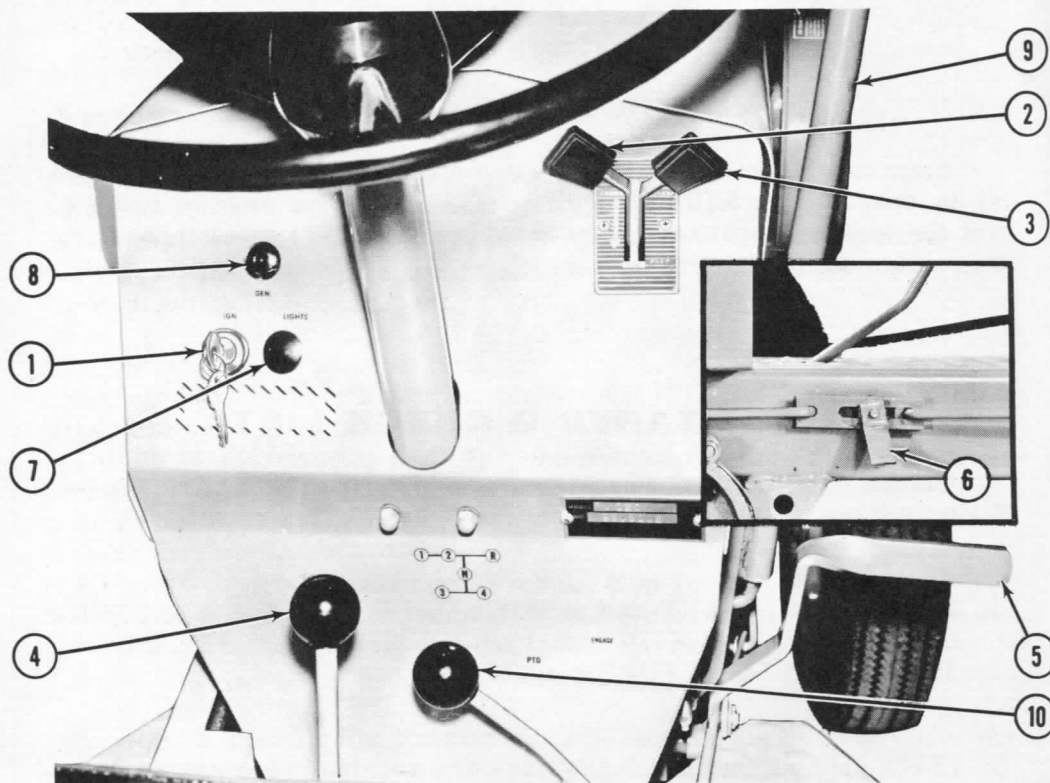

Figure 5
**NOTE** Always engage and lock the brake when parking the tractor. The brake is locked by tightening the lock lever (6, Figure 5) with the brake pedal fully depressed.